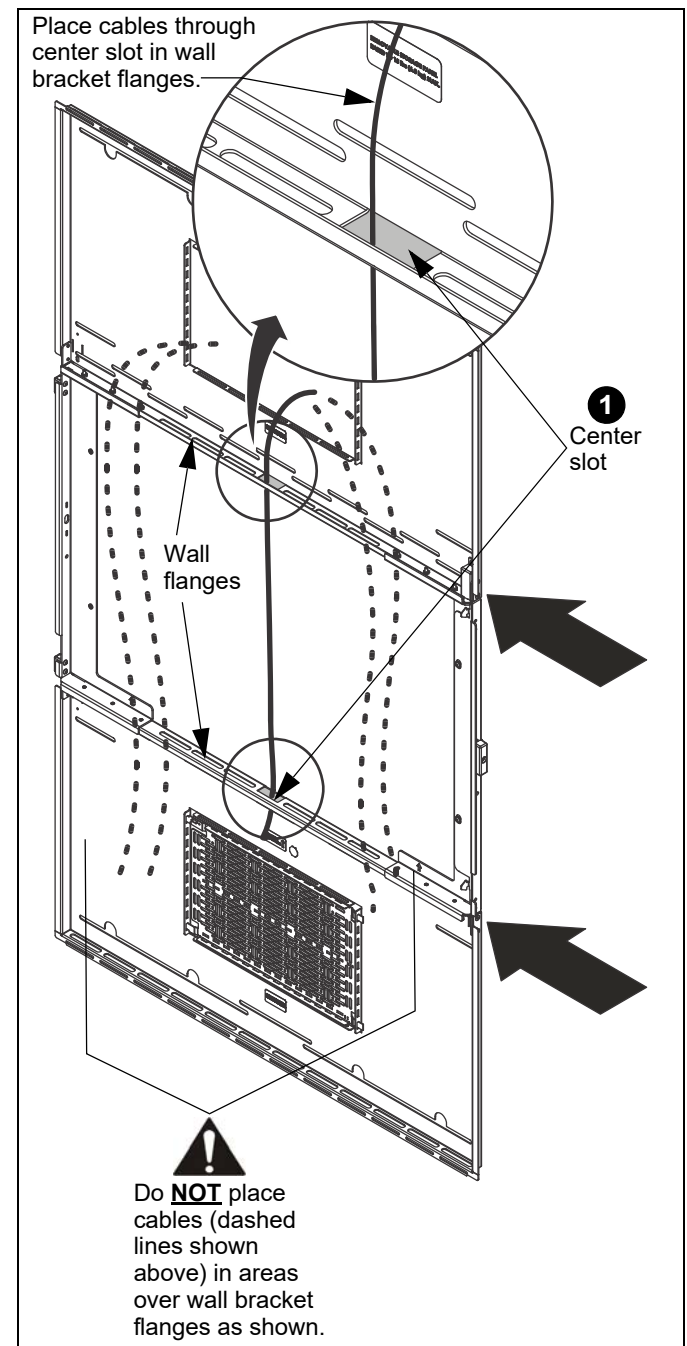

Figure 11
1. Cables may be placed through the center slot in the wall bracket flanges. (See Figure 11)